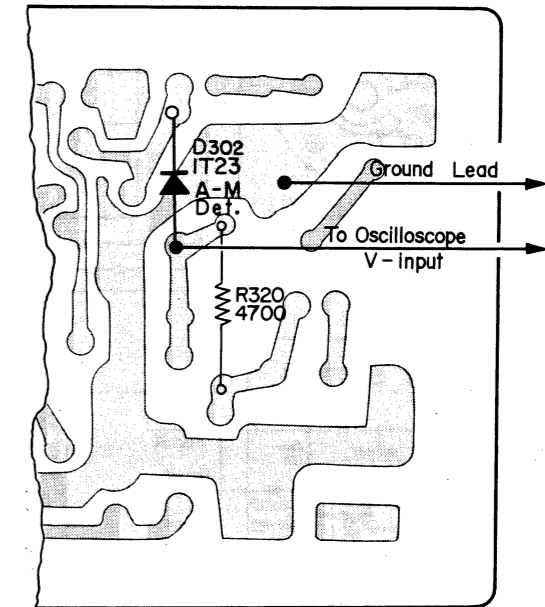

Fig. 3-10 A-M I-F Adjustment Test Point
- Solder a hook-up wire directly to resistor R320 (4.7 k Ω) from the conductor side on the A-M-CP-I-F board as shown in Fig. 3-10.